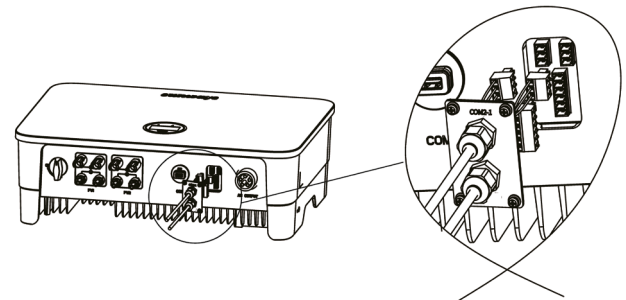

Fig. 42. Connection of the 3-pin connector on the inverter.
4. Insert the 3-pin connector into the inverter and screw the cover plate back on using a Phillips screwdriver, as shown in Fig. 42: